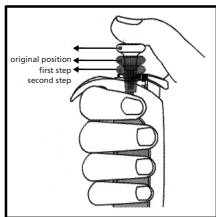

Figure 5
- Press down the control button to the first stop (Figure 5).